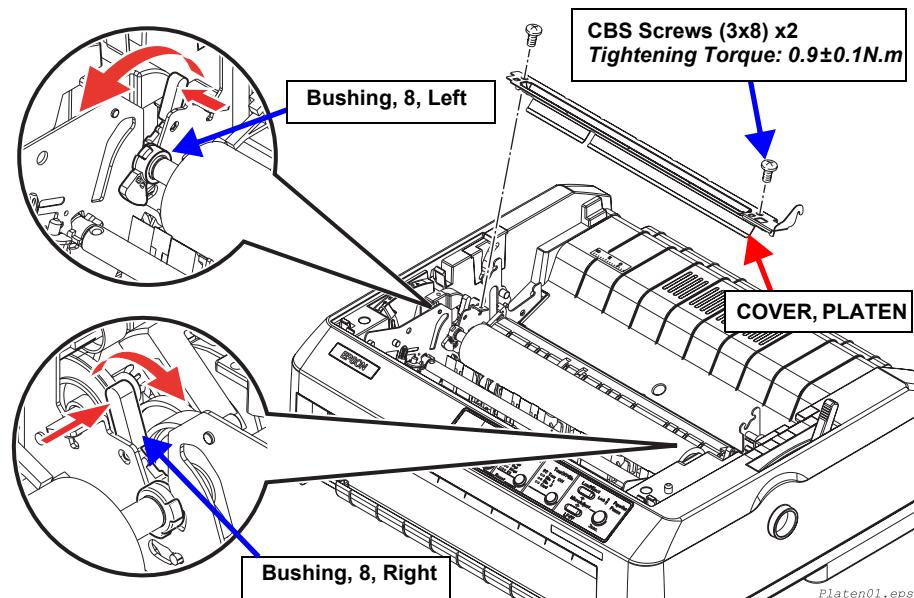

Figure 4-14. Platen Removal 1
2. Remove the 2 CBS (M3x8) screws securing the COVER,PLATEN. (See Figure 4-14)